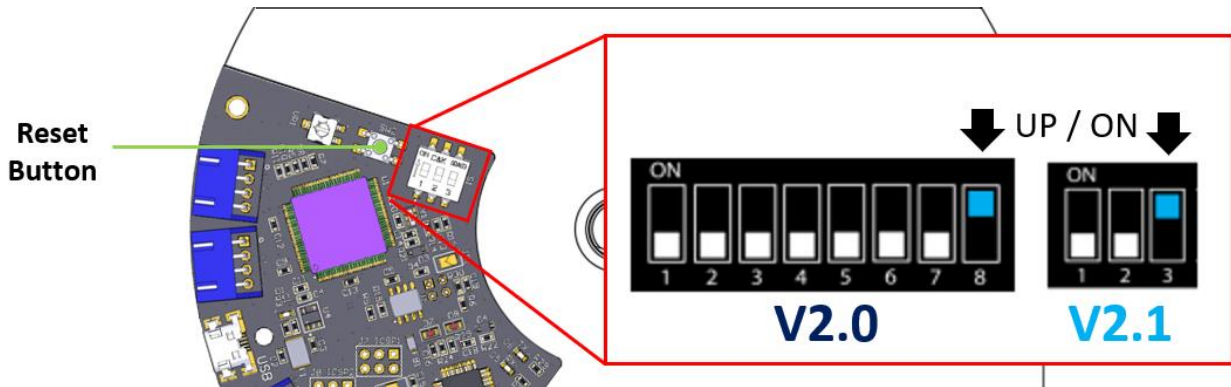

Figure 5: Setup Mode for Software V4.4 and older with Dyno boards V2.1 and older
3. Switch pin #3 or pin #8 to the Up (ON) position and push the Reset button (see Figure 5).